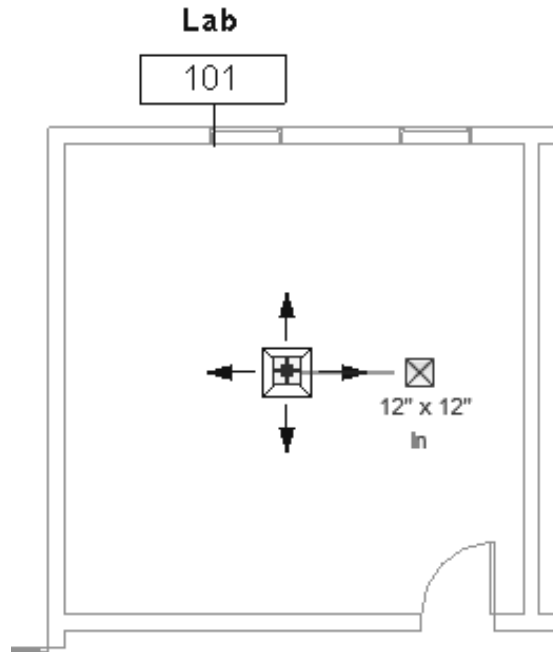

Figure 2–21
5. Click near the center of room **Lab 101**, as shown in Figure 2–21.